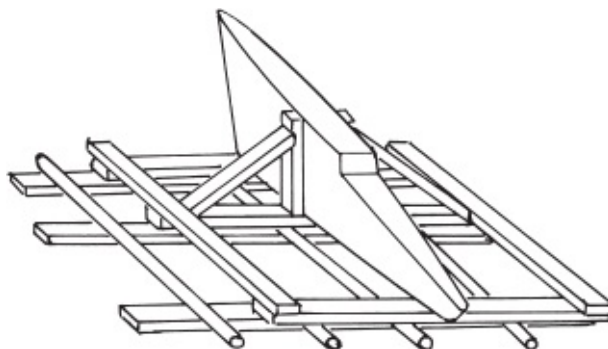

FIGURE 142 } The keel can be rolled to the side with the help of water pipes made of steel, which are placed between two
- 7 *When the bolts are removed, a few bolts are retained in a couple of holes as guides when the ball last keel is lowered. The keel is lowered by the means of jacks; at least three are necessary (see Figure 141). Alternatively, the keel is lowered a bit and then slid sideways so that the bolts through the joints with stem and knee can be loosened (see Figure 142).*